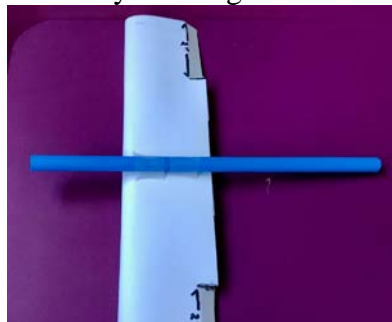

Figure 10. Tape the wing to the straw so the front of the wing is 3 inches back from the end of the straw
12. Tape the straw to the center of the wing so that the leading edge of the wing is about 3.5-4 inches (8.9–10 cm) back from the front of the straw. If you are having difficulty, have someone hold the wing in place on the straw while you affix two or three strips of tape to hold the wing onto the straw firmly. See Figure 10.